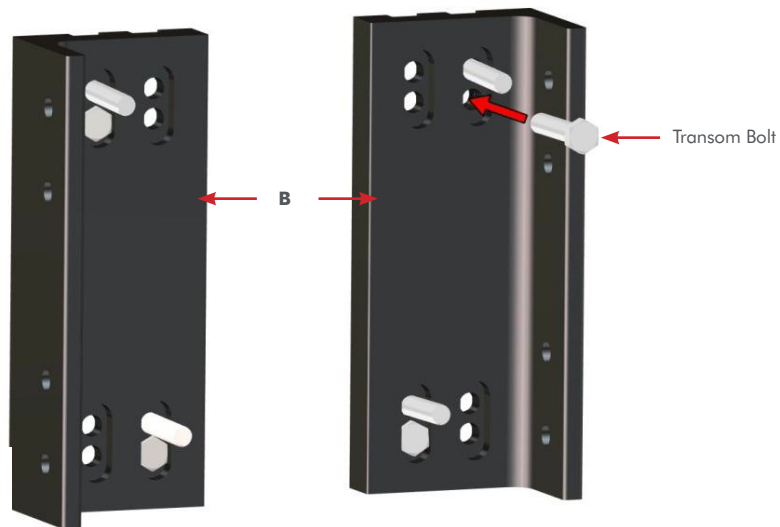

Figure 3
STEP 3: Install the transom bolts through the holes directly below the engine bolts in the M to S adapter plates **B** as illustrated (**FIG. 3**).